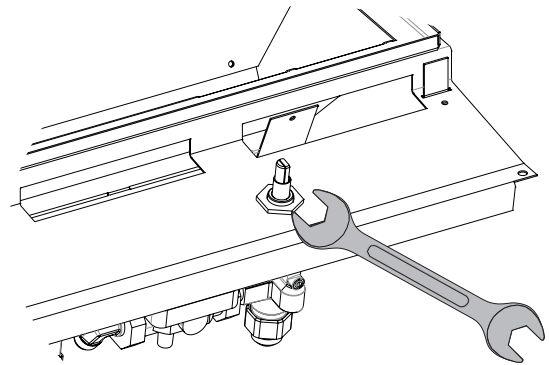

Figure 10
13. Hold the gas valve and use the 13/16" wrench to remove the nut on the valve system. **See Figure 10.** Remove the gas valve assembly from the firepit.